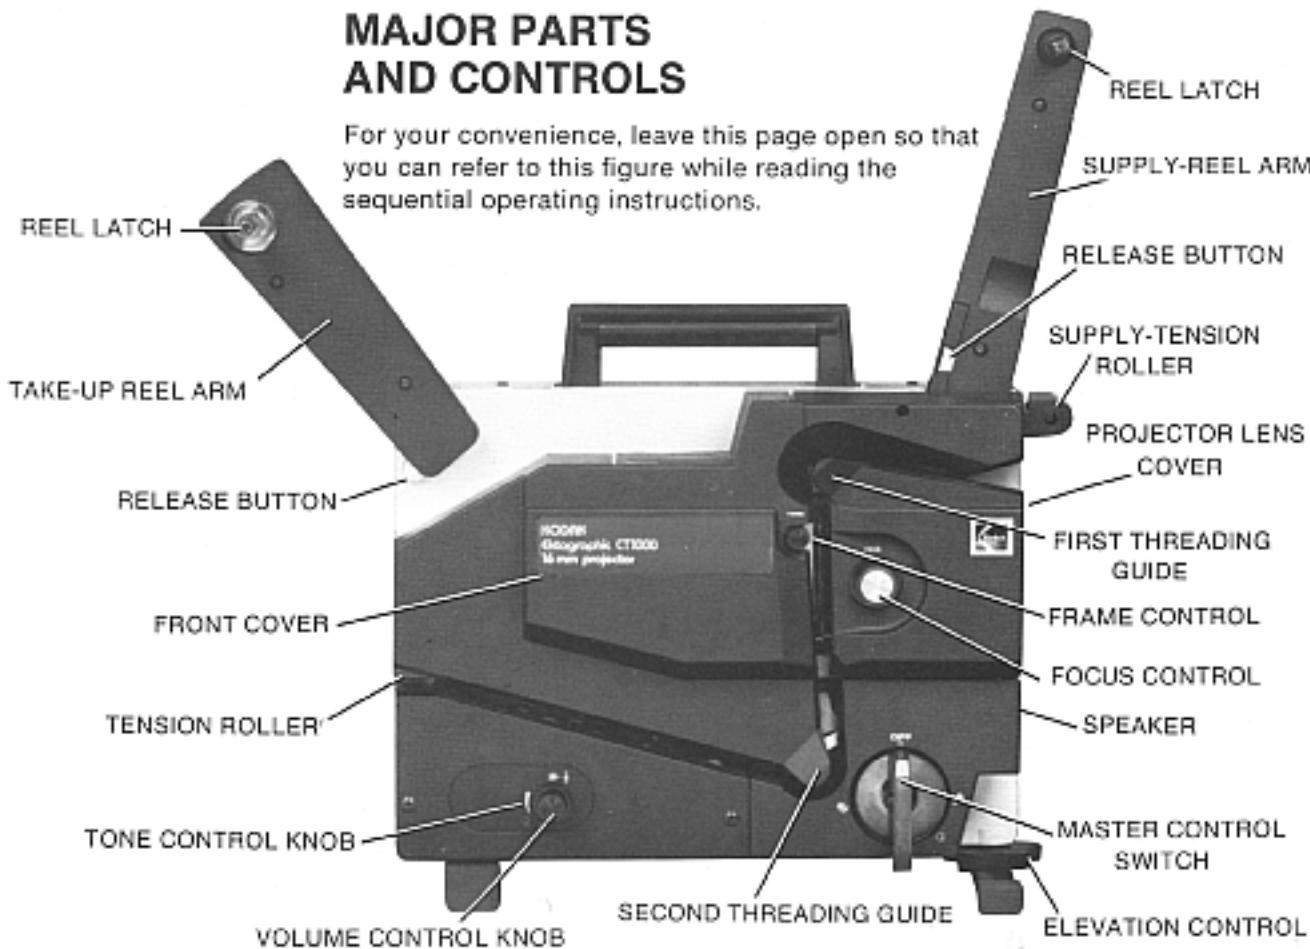

Figure 1
2. Check that the master control switch (see Figure 1) is in the OFF position, then plug the power cord into a grounded 110- to 125-volt 60 Hz receptacle.
1. Turn the master control switch (see Figure 1) clockwise through \odot (forward) to \square (lamp).
2. Adjust focus with the focus control (see Figure 1). If a frame line appears on the screen image, adjust the frame control (see Figure 1) until the frame line disappears. Adjust the elevation control (see Figure 1) as desired.
3. Check that the elevation foot is retracted all the way. (Turn the elevation control, Figure 1, to the left.) Take hold of the power cord plug and pull it out of the receptacle. (Do not unplug the projector by pulling on the power cord.) Put the cord in its storage compartment.